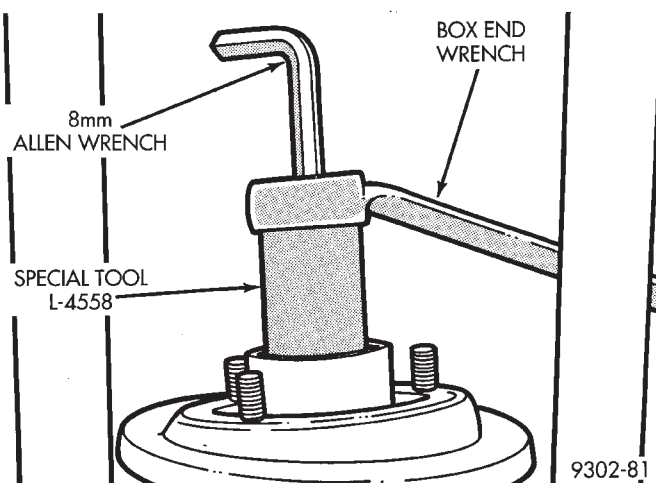

Fig. 2 Removing Strut Shaft Nut
(4) Install Strut Rod Socket, Special Tool, L-4558 on strut shaft nut (Fig. 2). Use a 8 mm allen wrench inserted into end of strut shaft to keep strut shaft from turning (Fig. 2). Remove strut shaft nut from shaft.